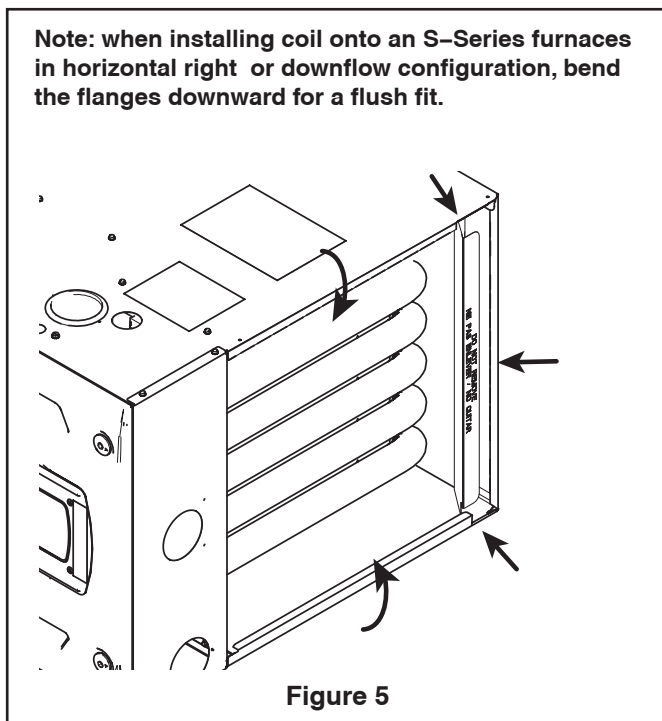

Figure 5
- c. Optional but recommended: On 4TXCC009DS and 4TXCD010DS only, remove the (2) outer water diverter baffles by removing the 5/16" hex head screws. See Figure 5.